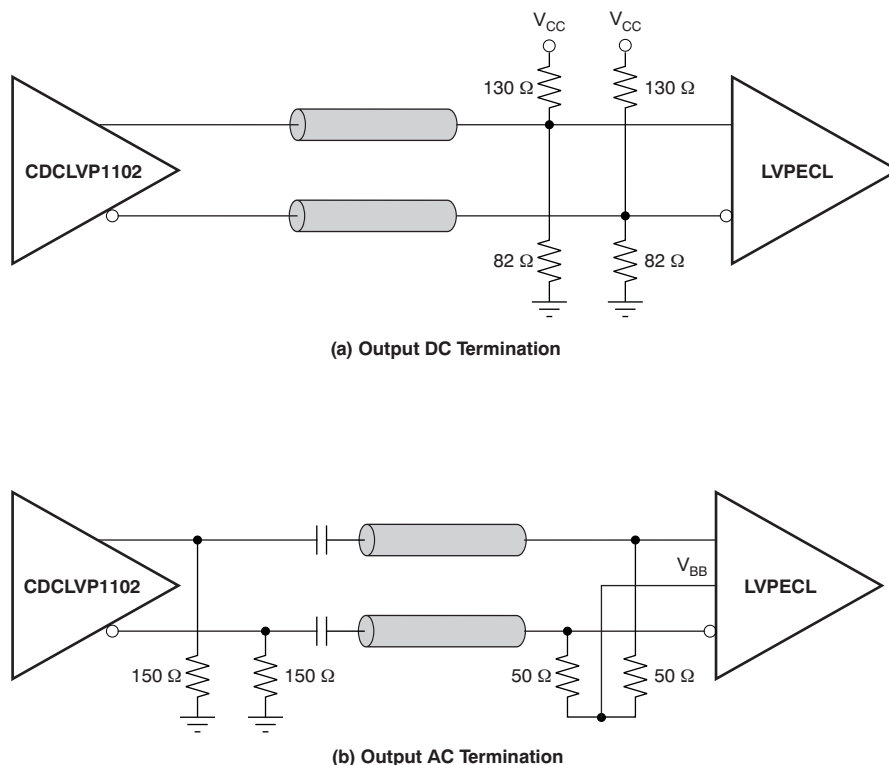

Figure 13. LVPECL Output DC and AC Termination for $V_{CC} = 3.3\text{ V}$
The CDCLVP1102 is an open emitter for LVPECL outputs. Therefore, proper biasing and termination are required to ensure correct operation of the device and to minimize signal integrity. The proper termination for LVPECL outputs is $50\ \Omega$ to $(V_{CC} - 2)\text{ V}$, but this DC voltage is not readily available on PCB. Therefore, a Thevenin equivalent circuit is worked out for the LVPECL termination in both direct-coupled (DC) and AC coupled configurations. These configurations are shown in Figure 12 for $V_{CC} = 2.5\text{ V}$ and Figure 13 for $V_{CC} = 3.3\text{ V}$, respectively. It is recommended to place all resistive components close to either the driver end or the receiver end. If the supply voltage for the driver and receiver is different, AC coupling is required.